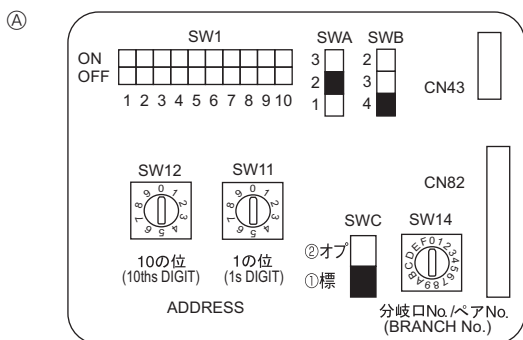

Fig. 4-4
- ③ Wireless remote controller (When installing wireless signal receiver)
- ④ Terminal block for indoor transmission cable
- ⑤ Terminal block for outdoor transmission cable (M1(A), M2(B), ⊕(S))
- ⑥ Remote controller
- ⑦ wireless signal receiver
- ⑧ wireless remote controller
4.5. Setting addresses (Fig. 4-4)
- ① How to set addresses
- ② How to set branch numbers SW14 (Series R2 only)
- ④ Address board
4.6. Switch setting for high ceiling or at the time of changing the number of air outlets (Fig. 4-4)
④	4 direction	2.7 m	3.2 m	4.5 m
③	3 direction	3.0 m	3.6 m	4.5 m
②	2 direction	3.3 m	4.0 m	4.5 m
4.7. Sensing room temperature with the built-in sensor in a remote controller (Fig. 4-4)